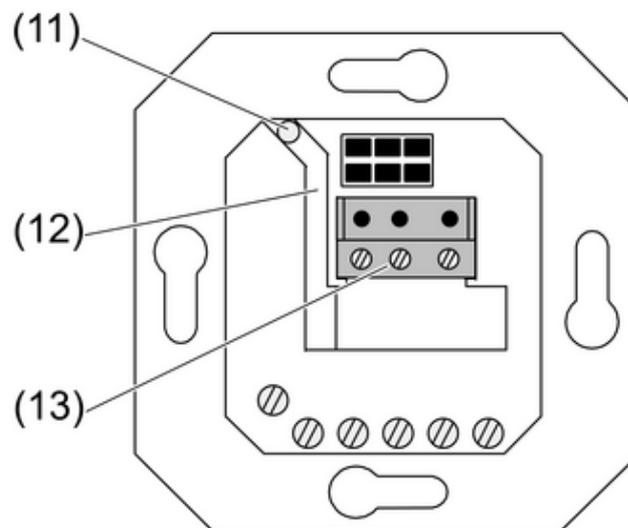
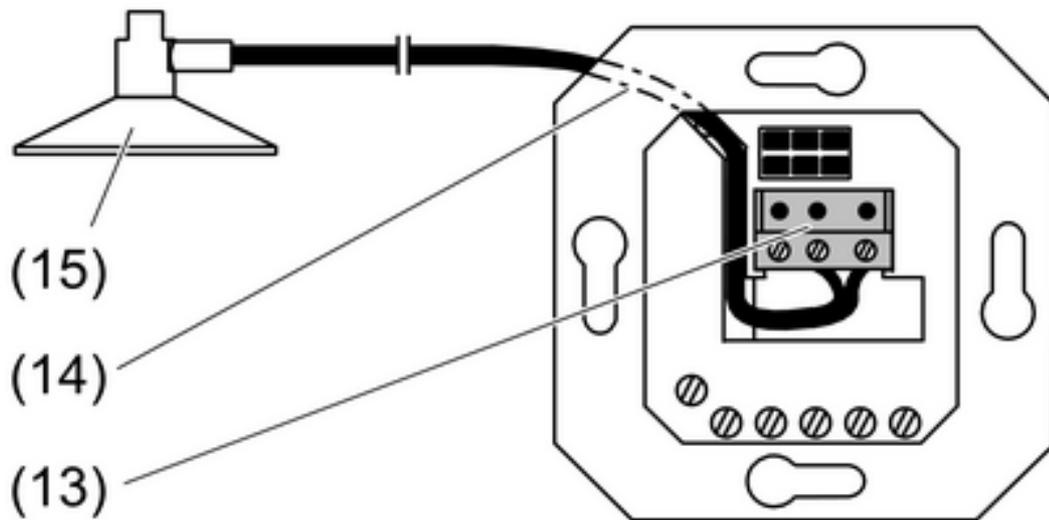
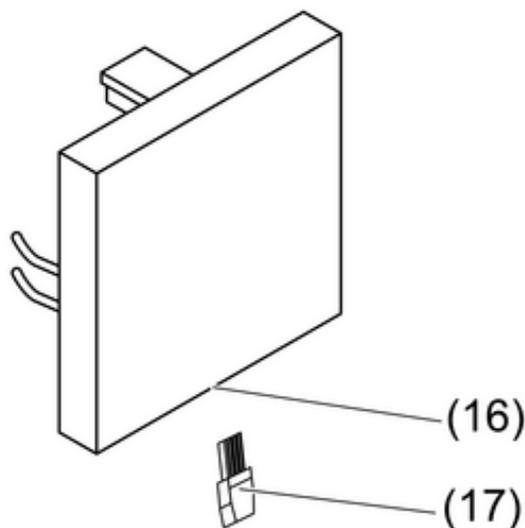

Figure 7: In-wall routing of the sensor cable
Figure 8: Surface-mounted routing of the sensor cable
Figure 9: Sun sensor on the cover
The sensor cable can be installed in three different ways. In-wall routing (Figure 7), surface-mounted routing (Figure 8), and with appropriate covers plugging the sensor cable into the cover (Figure 9).
- i** For in-wall routing of the sensor cable, use only shielded cables. Recommendation: J-Y (ST)Y 2x2x0.6 mm.
- Insert the cable through the hole (11) in the insert and route it through the cable duct (12) to the terminal block (13) (Figure 7).
- For surface-mounted routing of the indoor sensor (15), cut off the plug.
- Route the sensor cable behind the supporting plate (14) and through the cable duct to the connecting terminal (13) (Figure 8).
- Insert plug (17) into the socket of the insert (16) (Figure 9).